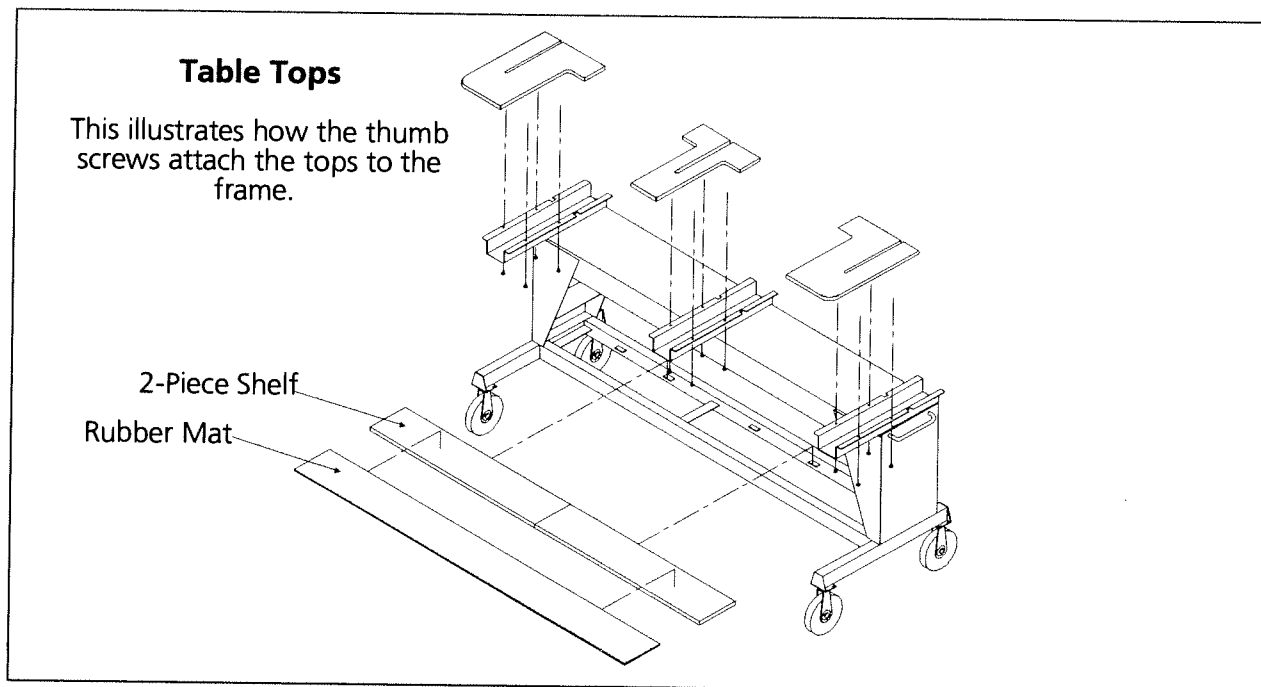
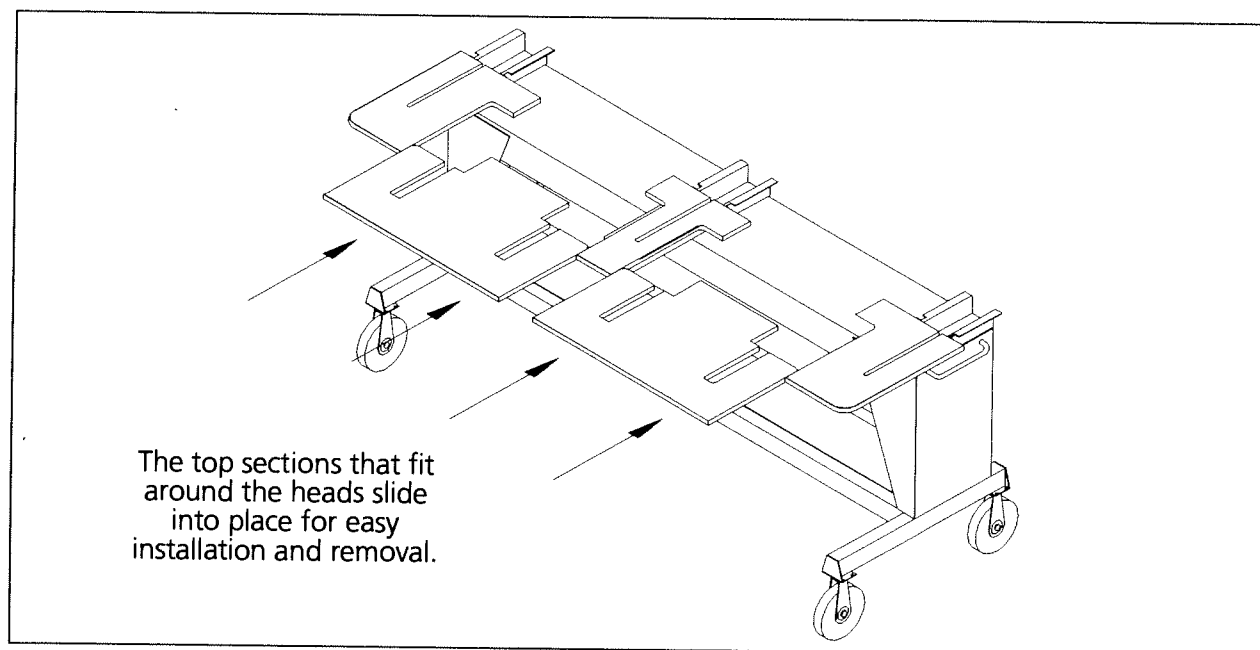

Figure 2-3
Figure 2-4
There are five table top sections (see Figure 2-3). The two ends and the center section bolt to the table as shown in Figure 2-3. The remaining two sections slide into place as shown in Figure 2-4. This design provides an easy way to remove the table tops around the embroidery heads to attach the cap frame driver or perform maintenance.
3. There is a 2-section shelf and a covering mat that comes with the table top assembly (see Figure 2-3). Place the shelf pieces on top of the brackets located in the base of the table and lay the mat on top of the shelf pieces.
4. Slide the last two tops into place (see Figure 2-4). They fit on the guide rails of the end and center sections.